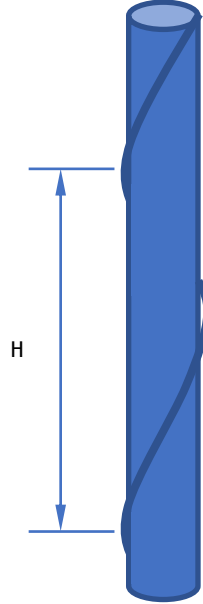

Figure 4.4: Typical SFR wire-wrapped rod configuration.
This parameter defines ratio of “wire lead length” (H) to rod diameter (D), see figure 4.4. Currently, this parameter is only used in the Cheng-Todreas correlation to compute wall friction factor in the wire-wrapped fuel bundle geometry.